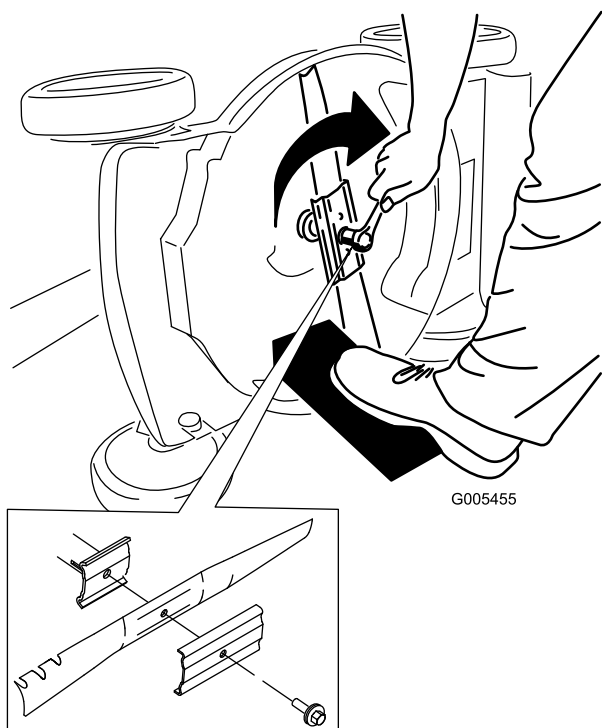

Figure 32
5. Install the new blade and all mounting hardware (Figure 32).